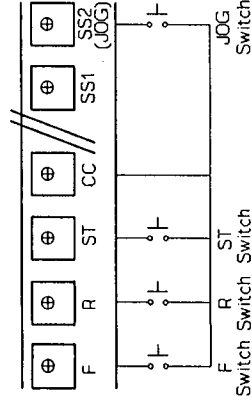
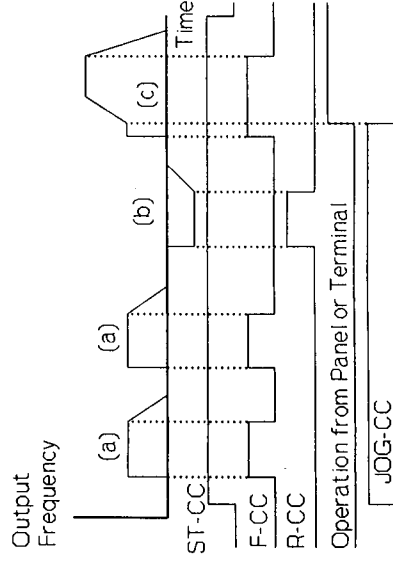

Figure 10.8 Connection of JOG Switch
Figure 10.9 Example of Operation with JOG Switch
1. Connect the "JOG" switch between the "JOG" and "CC" terminals on the control circuit terminal block as shown in Figure 10.8.
Figure 10.8 below shows and example of the use of a remote "JOG" switch connected to the "JOG" terminal to perform the [JOG] function by remote control. Figure 10.9 shows an example of a typical output to a motor, where:
An example of Forward Jog and Reverse Jog is shown in Figure 10.9.